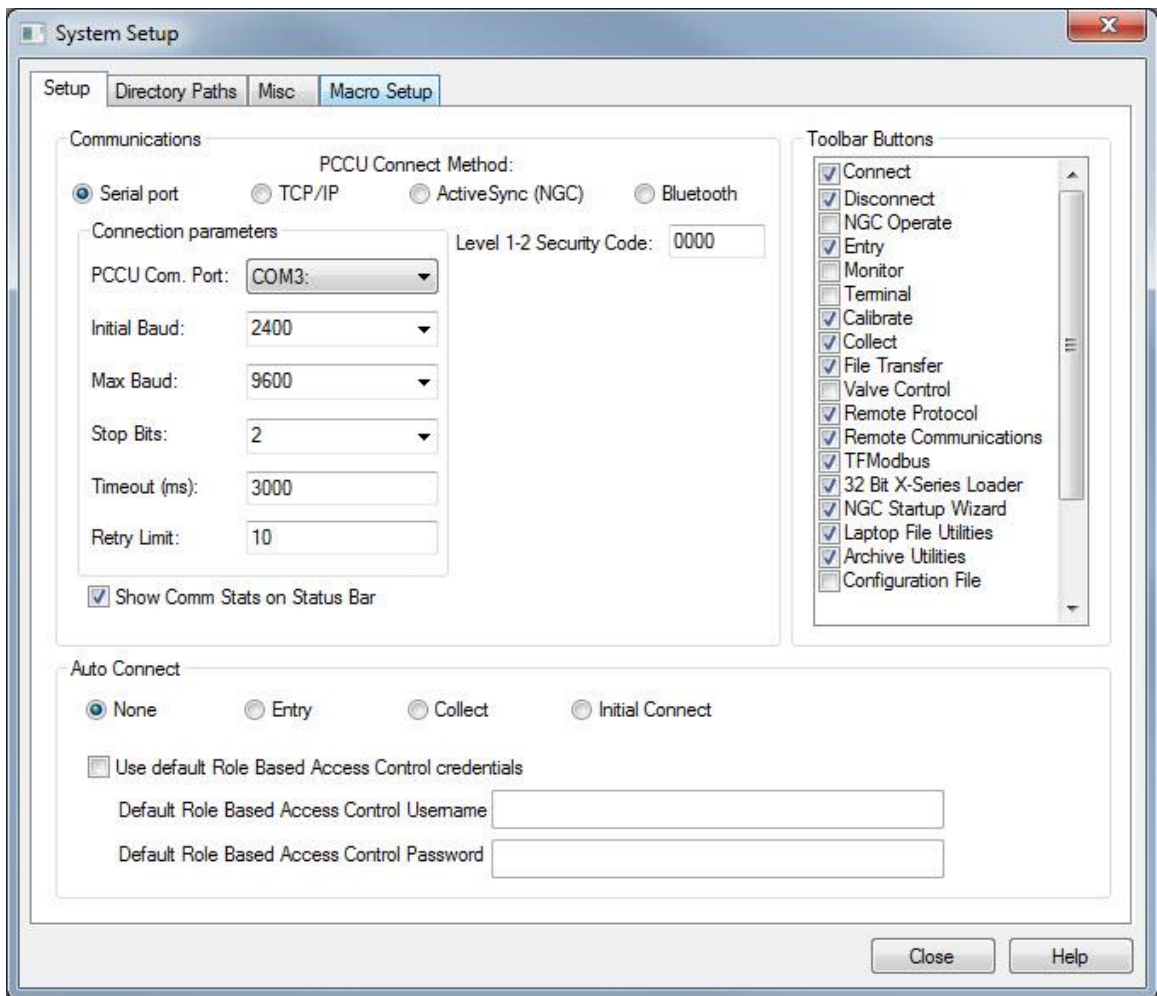

Figure 45: Setup for local communication
4. Click **Setup** on the top menu bar. The System Setup window displays the **Setup** tab (Figure 45).
If the meter has been given a security code, enter that code in the *PCCU32 System Setup* screen (see Figure 45). However, if the meter has been COLD-started, the security code will be reset to factory default and historical data will be lost.
4. Click **Setup** on the top menu bar. The System Setup window displays the **Setup** tab (Figure 45), *Setup for local communication*).